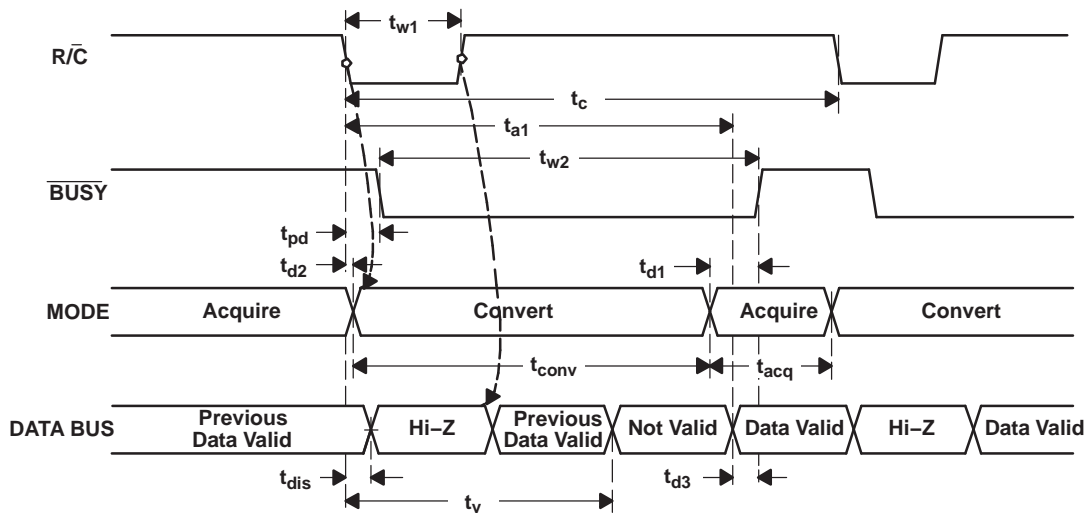
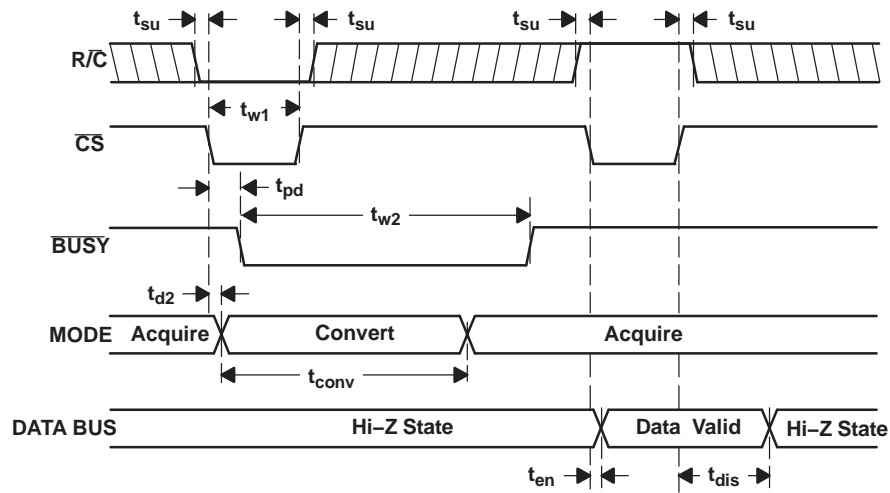
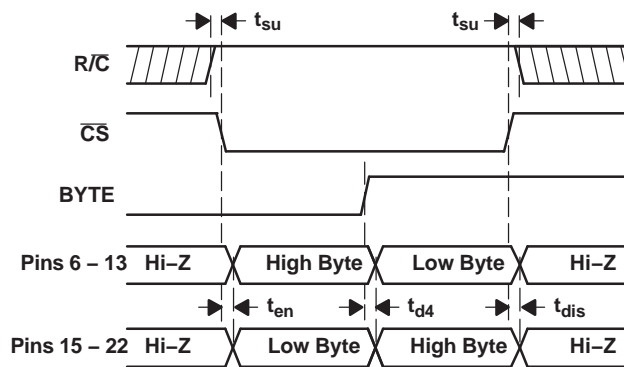

Figure 23. Conversion Timing with Outputs Enabled after Conversion ( $\overline{CS}$  Tied Low)
Figure 24. Using  $\overline{CS}$  to Control Conversion and Read Timing
Figure 25. Using  $\overline{CS}$  and BYTE to Control Data Bus
The ADS8505 begins tracking the input signal at the end of the conversion. Allowing 4  $\mu$ s between convert commands assures accurate acquisition of a new signal. Refer to Table 1 for a summary of  $\overline{CS}$ ,  $R/\overline{C}$ , and  $\overline{BUSY}$  states and Figure 23 through Figure 25 for the timing diagrams.
(1) See Figure 23 and Figure 24 for constraints on data valid from conversion  $n-1$ .
After conversion  $n$  is completed and the output registers have been updated,  $\overline{BUSY}$  (pin 26) goes high. Valid data from conversion  $n$  is available on D15-D0 (pins 6-13 and 15-22).  $\overline{BUSY}$  going high can be used to latch the data. Refer to Table 3, Figure 23, Figure 24, and Figure 25 for timing specifications.
After conversion  $n$  has been initiated, valid data from conversion  $n-1$  can be read and is valid up to  $t_2$  (2.2  $\mu$ s typ) after the start of conversion  $n$ . Do not attempt to read data from  $t_2$  (2.2  $\mu$ s typ) after the start of conversion  $n$  until  $\overline{BUSY}$  (pin 26) goes high; this may result in reading invalid data. Refer to Table 3, Figure 23, Figure 24, and Figure 25 for timing specifications.
The number of control lines can be reduced by tying  $\overline{CS}$  low while using the falling edge of  $R/\overline{C}$  to initiate conversions and the rising edge of  $R/\overline{C}$  to activate the output mode of the converter. See Figure 23.